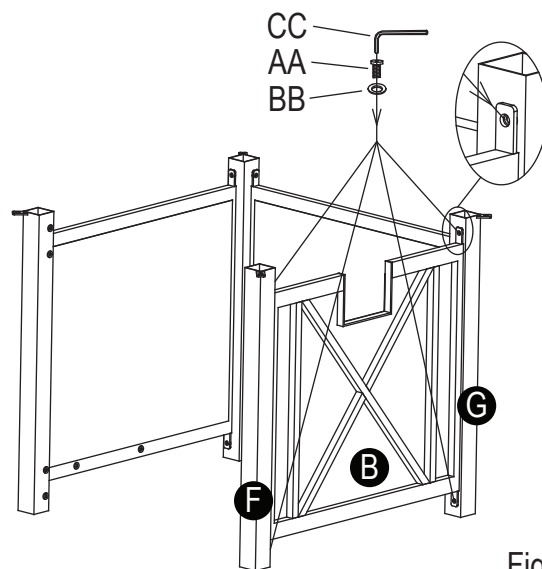

Figure 3
3. Attach the Right Panel (B) to Front-Right Leg (F) and Back-Right leg (G) with Bolt (AA) and Washer (BB) using the Hex Screw Driver (CC), (see Figure 3).